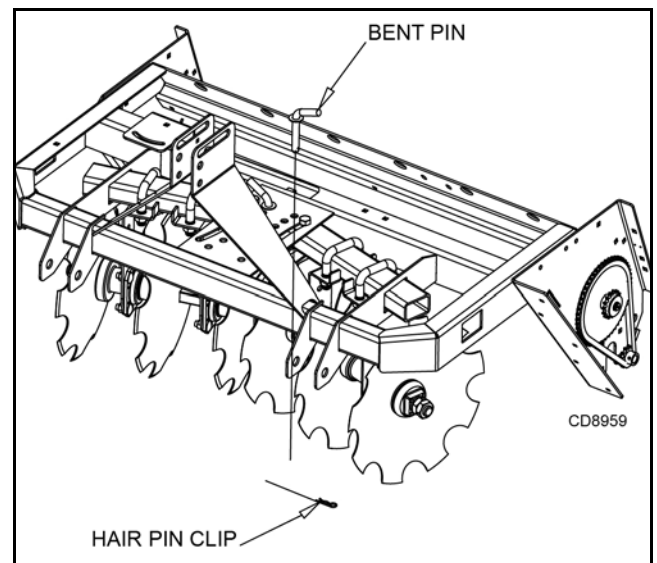

Figure 11
4. Remove bent pins and hair pin clips from seeder front tool adjustment (see Figure 11).
5. Adjust RH and LH front gang assemblies independently. Move tubes rearward (see Figure 11) for concave disc blades. Keep RH and LH adjustment angles the same for proper operation.
7. Lift Overseeder and pull forward to clear wooden blocks. Lower Overseeder to rest position on the ground/level surface, and install hair pin clips (see Figure 11).